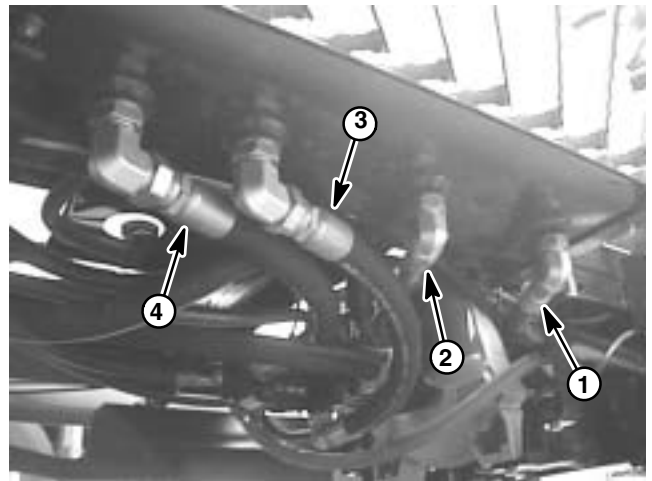

Figure 56
2. Lubricate new o-rings and reconnect hydraulic hoses to reservoir (Fig. 56).